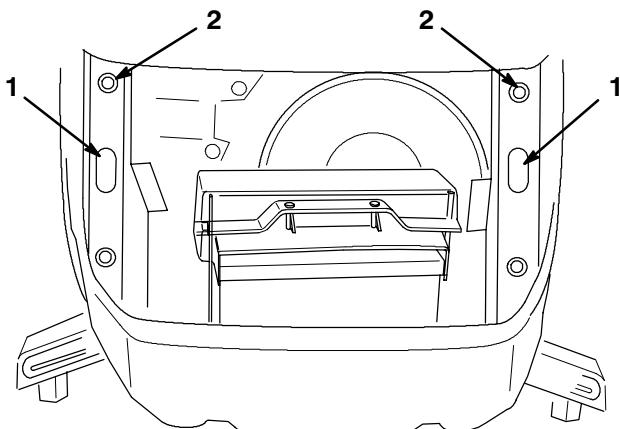

Figure 2
1. The front hood support braces have two slots (Fig. 2) that may be used to lift the tractor to install the front wheel spindles. To access these slots, remove the front grill and raise the hood.
Note: Remove, or be careful not to damage, the two upper grill grommets (Fig. 2).